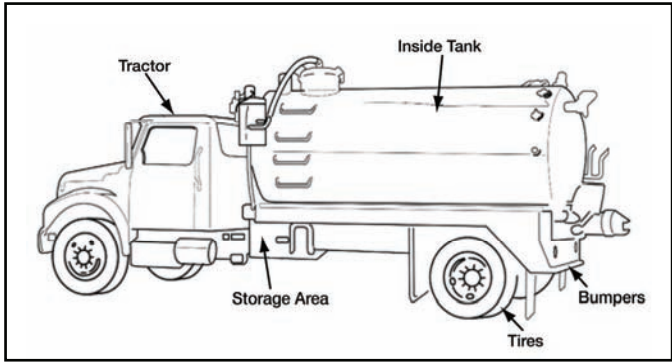

**Figure 191-376-5141-7. Propane tanker**
h. Determine if the commercial vehicle is a septic service truck (see figure 191-376-5141-8).